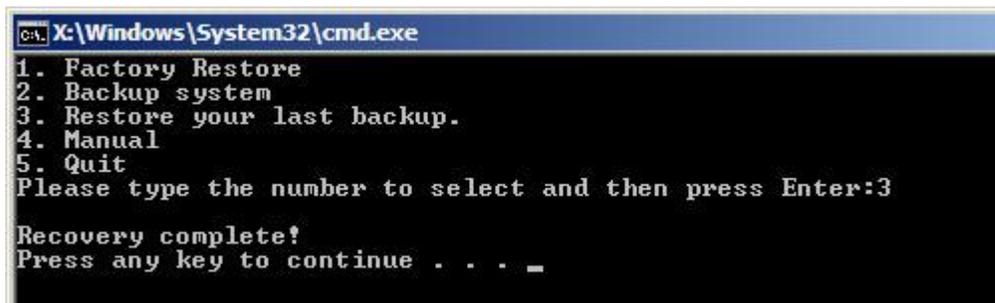

Figure D-41: Restore System Backup Complete Window
Step 3: The screen shown in **Figure D-41** appears when backup recovery is complete. Press any key to reboot the system.